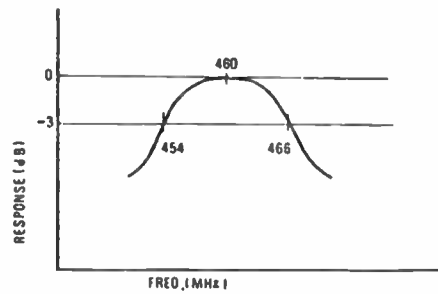

FIGURE 8. UHF RF CHARACTERISTIC
Step 2: Adjust trimmer capacitor TC3, TC2 and TC1 for maximum output and best symmetry curve as shown in Figure 8.